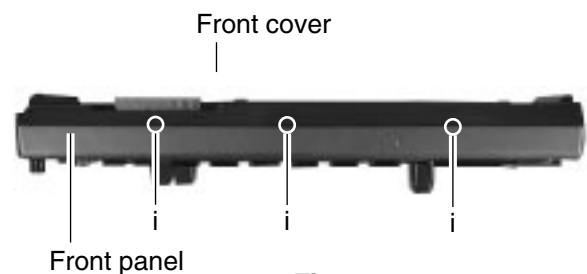

Fig. 10
1. Raise the part **k** of the reel base assembly slightly and remove the selector link (B) on the front side of the cassette mechanism assembly by turning it as shown in Fig.10.